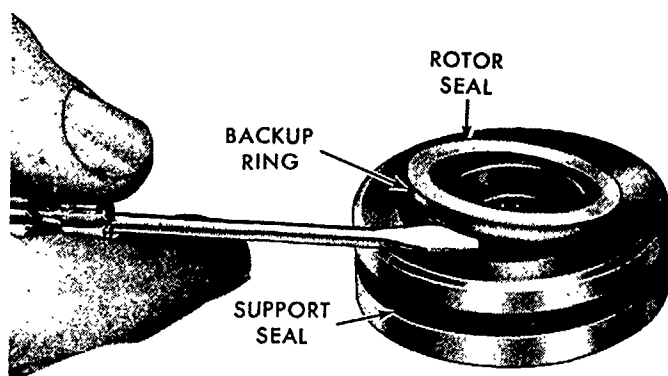

Figure 95
13. Remove the bearing support outer seal, Figure 95.
4. Install a new backup ring and rotor seal, Figure 95, into the bearing support. Then install a new bearing support outer seal.